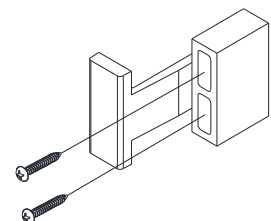

Figure 27
42. Attach the screen keeper (Item 33) to the jamb using two screws (Item 42; Figure 27).